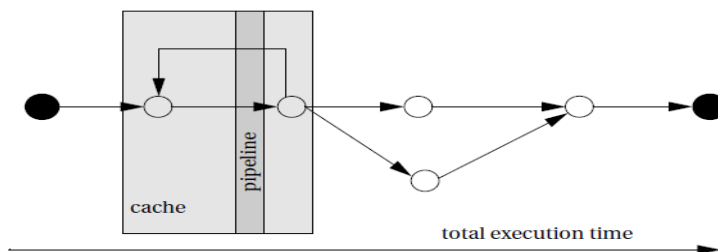

FIGURE 5.22
- As illustrated in Figure 5.22, the CPU pipeline and cache act as windows into our